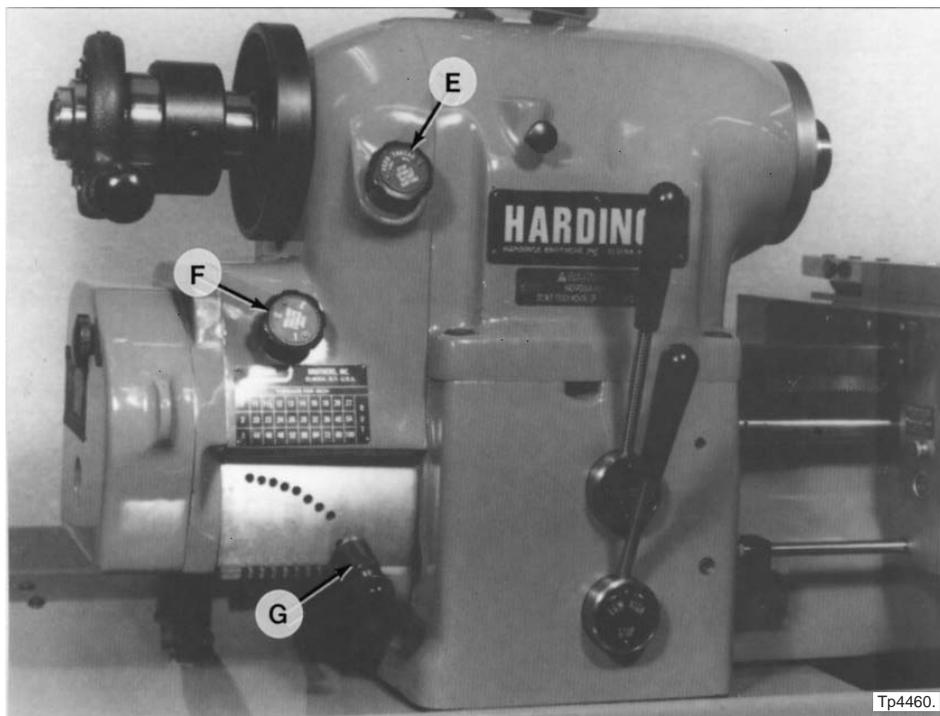

Figure 4.4 - Gearbox (Front View)
If the gearbox is not shifted for long periods of time, cycle “Feed-Thread” knob “E”, Figure 4.4, three change knob “F”, and thread change handle “G” from one extreme to the other several times.
13. If it is necessary to remove three change pinion assembly "F", Figure 4.4:
- c) Pull three change pinion assembly "F", Figure 4.4, out of the gearbox housing.